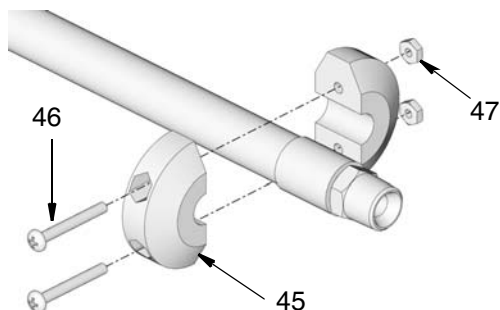

FIG. 84
- Remove dispense valve, nuts (47), screws (46) and ball stop (45) from end of hose (FIG. 84). Cap end of hose to prevent fluid spills.
4. Remove dispense valve, nuts (47), screws (46) and ball stop (45) from end of hose (FIG. 84). Cap end of hose (if needed) to prevent fluid spills.